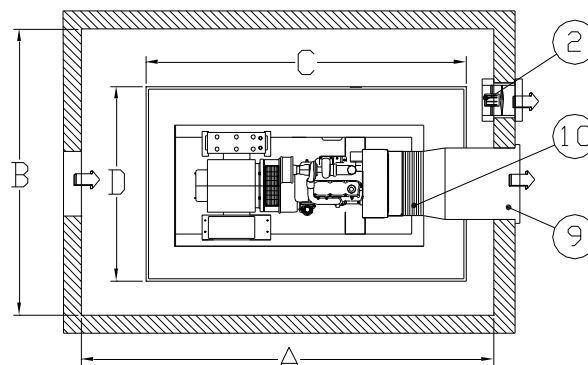

Fig. 6
**ATTENTION:** Install an air expulsion as indicated in detail 9 of fig. 6 to prevent recirculation of hot air between the radiator and the wall extraction opening and allow access to the radiator for maintenance purposes.